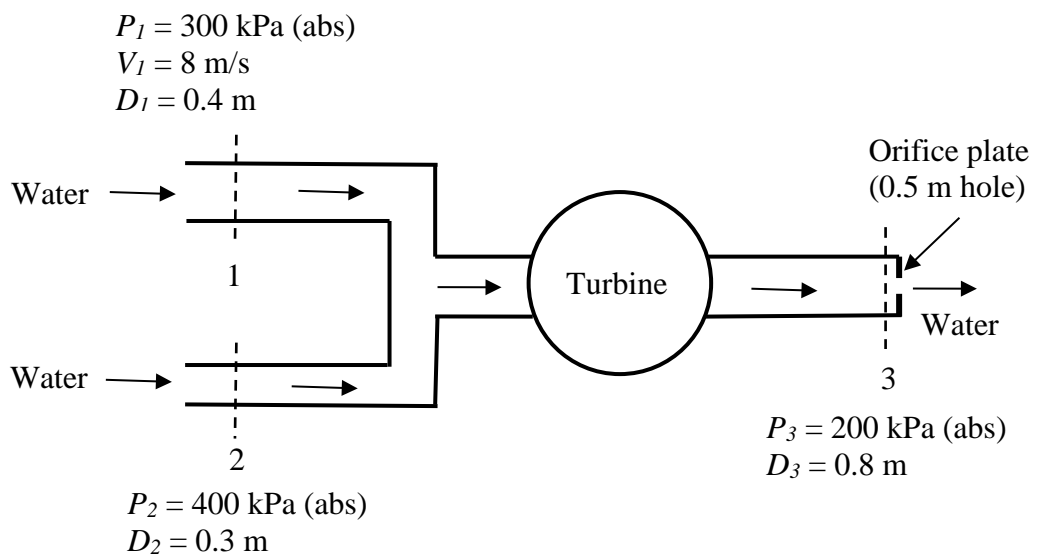

Figure 2
- (b) Water from two dams flows into a turbine through two pipes which are then merged into a common pipe, just before entering the turbine as shown in Figure 2. The water leaving the turbine flows through a pipe which has an orifice plate installed at the pipe exit. At the 0.5 m diameter orifice exit, the water is discharged into the atmosphere. The discharge coefficient of the orifice is 0.62. At section 1, the water flows at 8 m/s through a 0.4 m diameter pipe at 300 kPa (absolute pressure) while at section 2, the water pressure in the 0.3 m diameter pipe is 400 kPa (absolute pressure). At section 3 which is just upstream of the orifice plate, the water pressure in the 0.8 m diameter pipe is 200 kPa (absolute pressure). The total power loss for flows between sections 1 and 2 to section 3 is 50 kW. Sections 1, 2 and 3 are at the same height. The atmospheric pressure is 100 kPa (absolute pressure) and the density of water is 1000 kg/m³. Determine the turbine power output if the turbine efficiency is 80%.